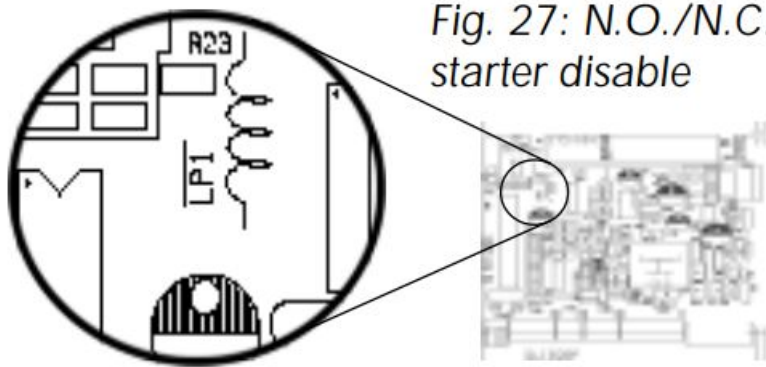

Fig. 27: N.O./N.C.
2. On the back of the printed circuit board, cut the "LP1" loop as shown on Fig. 27.